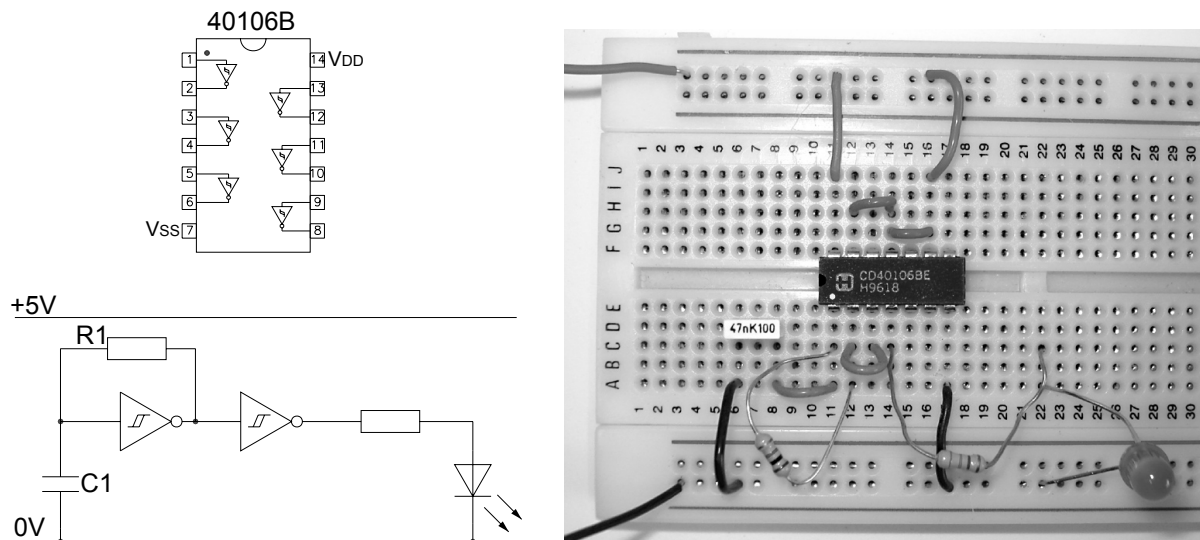

Fig. 10
- 3 (a) Fig. 10 shows a circuit diagram and a correctly constructed breadboard layout for an astable circuit.